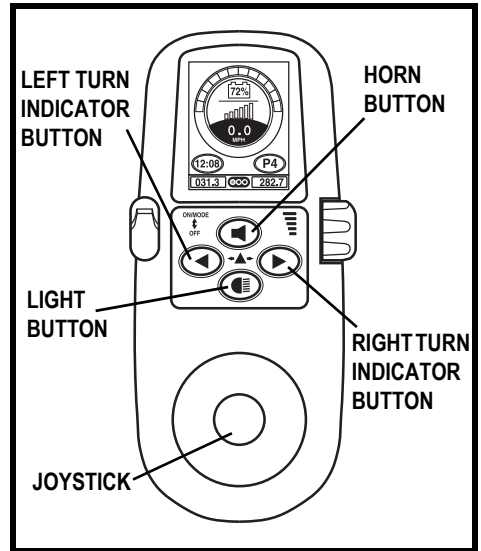

Figure 6. Q-Logic with Lights Keypad
NOTE: If your Q-Logic Controller is equipped with a lighting system, the menu button and key 1/key 2 select buttons will be replaced with a light button and left/right turn indicator buttons. See figure 6.